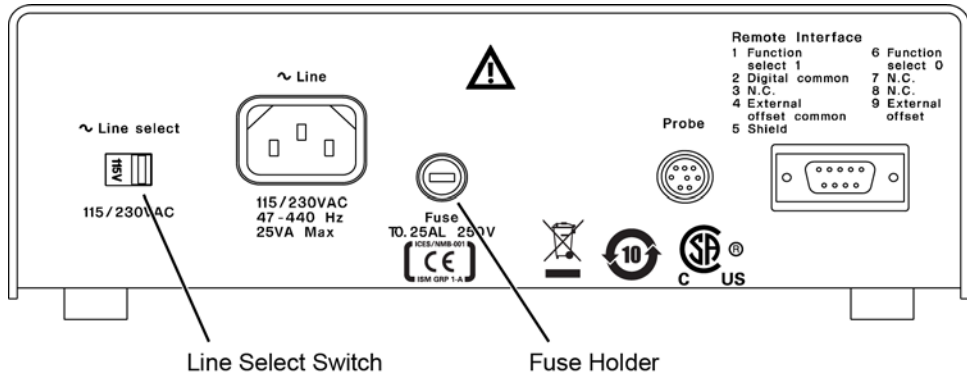

Figure 2 1142A Rear Panel
- 1 Locate the fuse holder shown in Figure 2. Gently push the fuse holder in using your finger or a flat-bladed screwdriver.